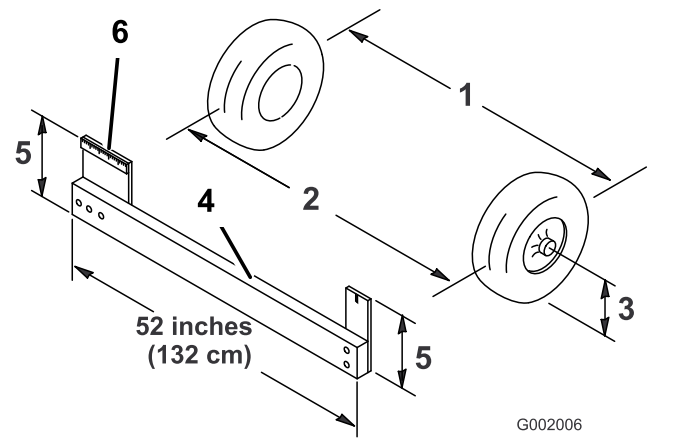

Figure 47
- Measure the distance between both the front tires at the axle height at both the front and rear of the front tires (Figure 47).
Note: You will need a fixture or alignment gauge for measuring the rear of the front tires at axle height. Use the same fixture or alignment gauge to accurately measure the front of the front tires at axle height (Figure 47).